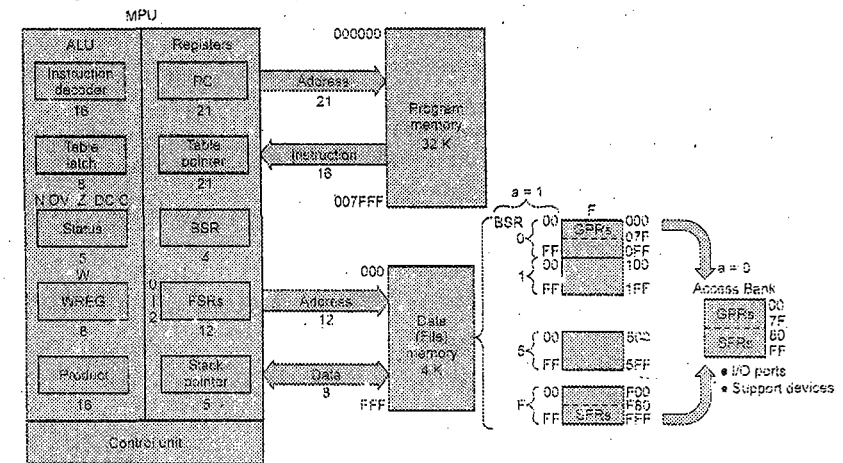

Fig. Q.8.1 : Programming model of PIC
**Ans. : Programming Model of PIC18FXX :** It supports for the smooth functioning of the microcontroller, all components are the parts of programming model contribute directly or indirectly. The components of general programming model are ALU, PSW, Pointers, RAM, Data and program ROM, Timers, SFRs and ports as shown in Fig. Q.8.1. It also represent the internal architecture of a microprocessor necessary to write assembly language programs. It has been divided into two groups as